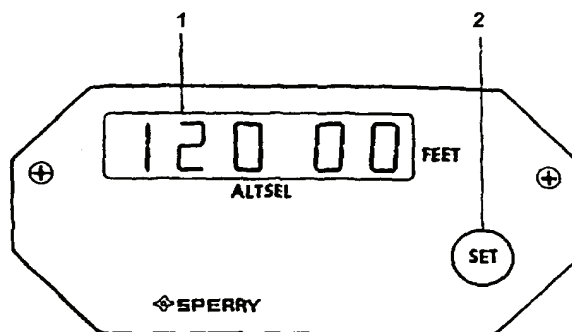

Figure 3B-139. Altitude Select Controller
a. Description. The Altitude Select Controller, located in the center of the instrument panel, provides a means for setting the desired altitude reference for altitude alerting and altitude pre-select system. Refer to Figure 3B-139.